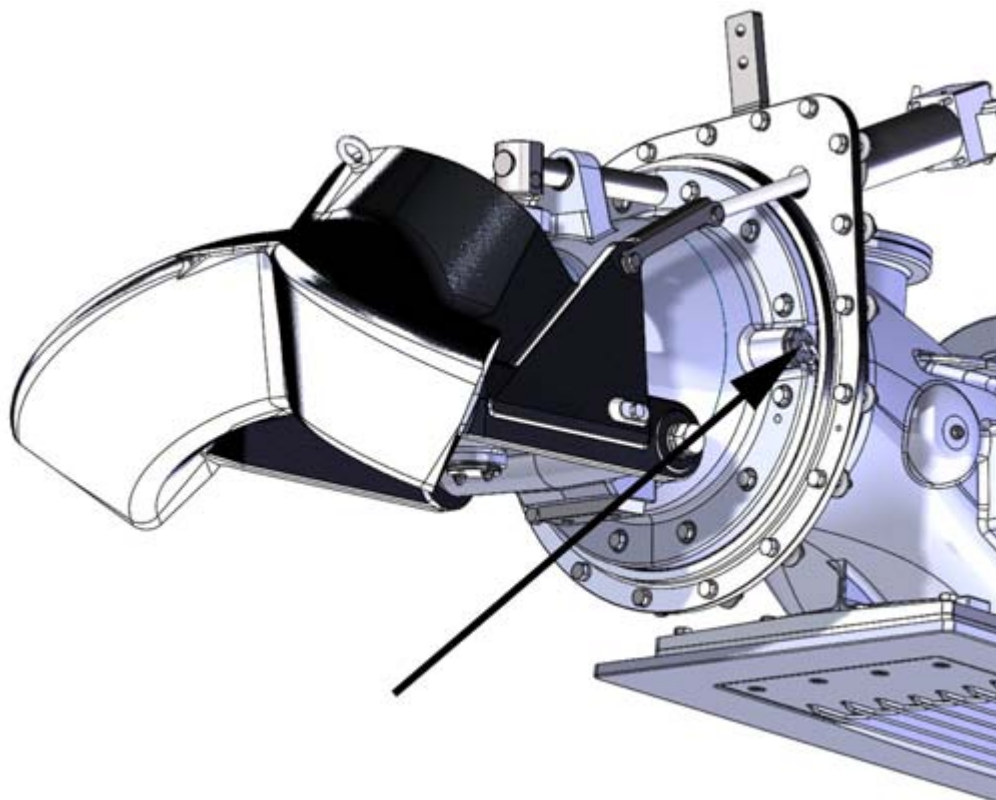

Figure 12. Stator anode, plug and anode conductor
1. stator anode, plug, anode conductor (figure 12) and the screw in the same place on the opposite side of the stator